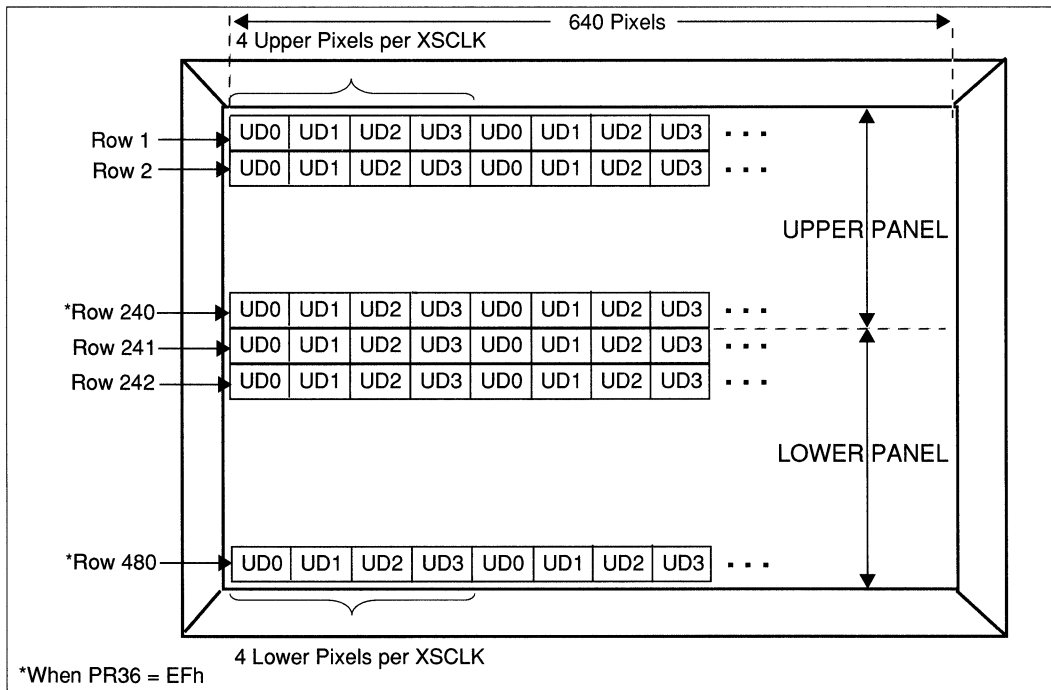

FIGURE 6-26 DUAL PANEL LCD DATA ORGANIZATION
- Dual Panel LCD Data Organization (Figure 6-26)